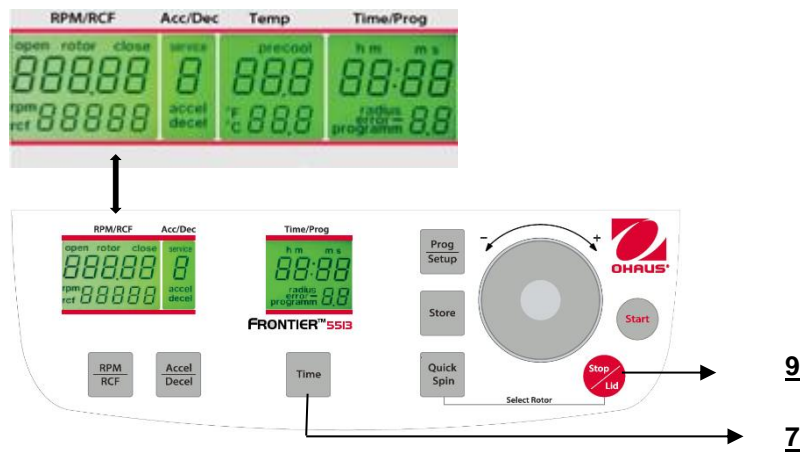

Figure. 28
While the centrifuge is turned off, press simultaneously the keys "**Time**"(7) and "**Stop/Lid**" (9) and turn on the main switch of the centrifuge. Now release both keys and as a result a display test is executed for approx. 5 seconds. All indicators will appear at the same time (See figure 28).